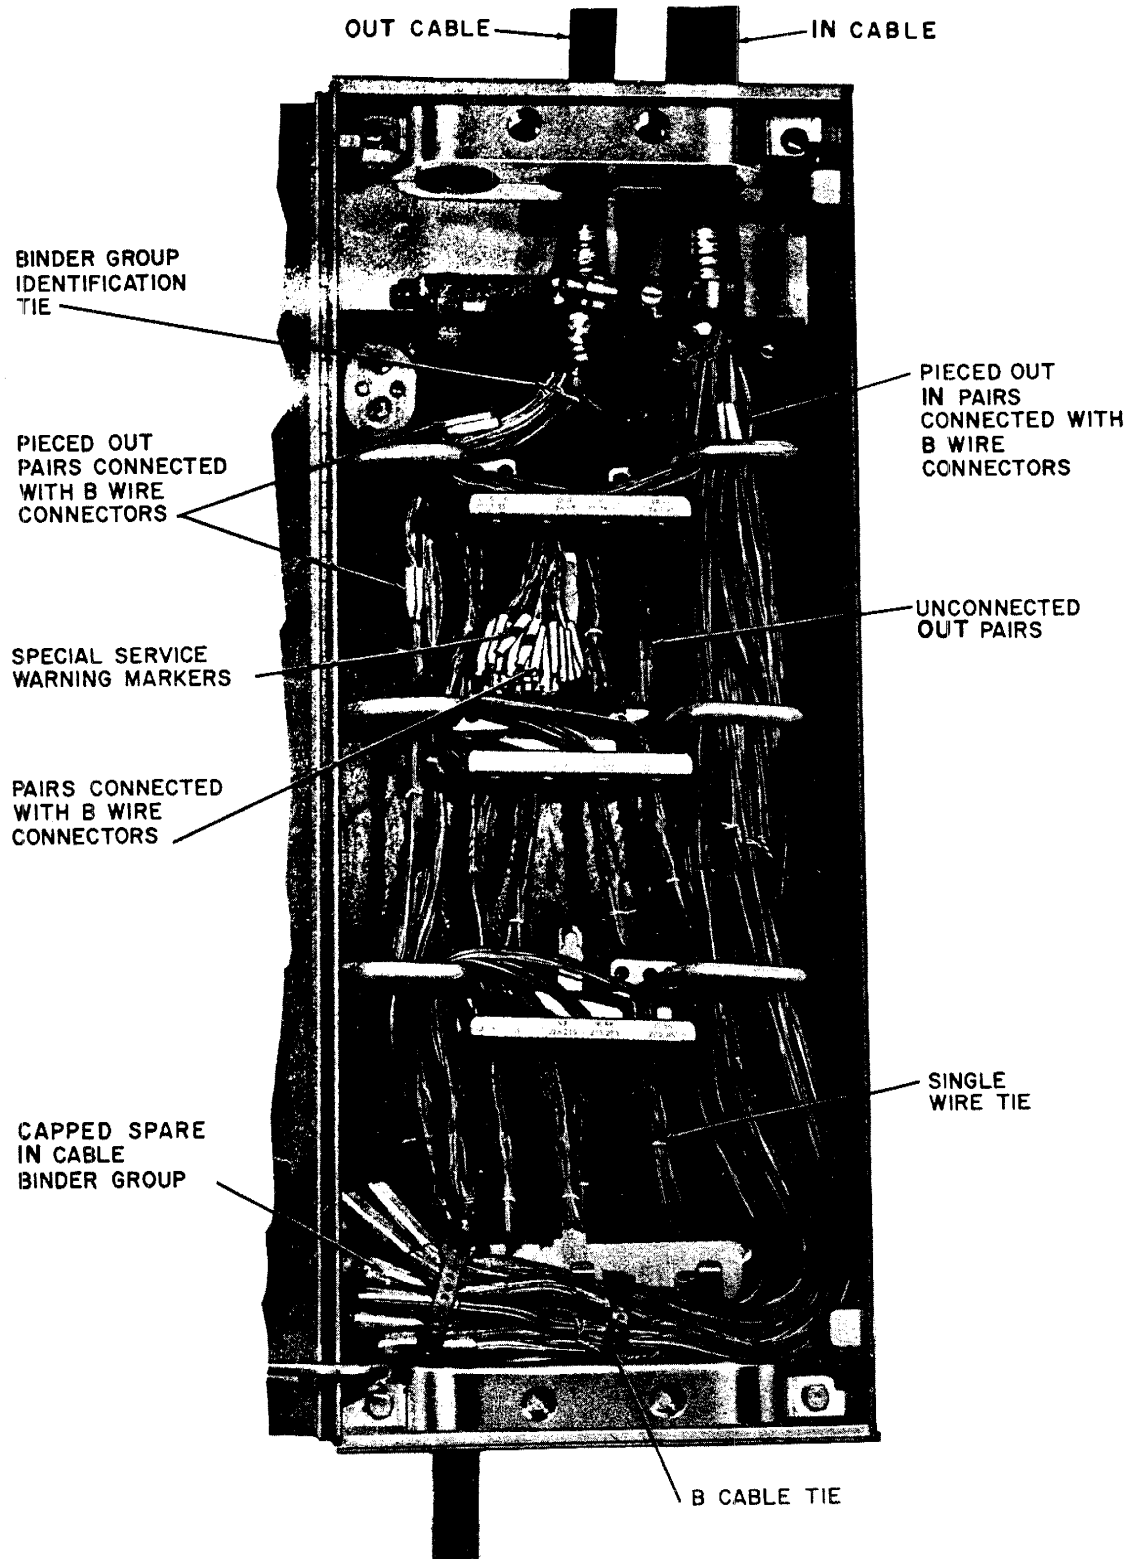
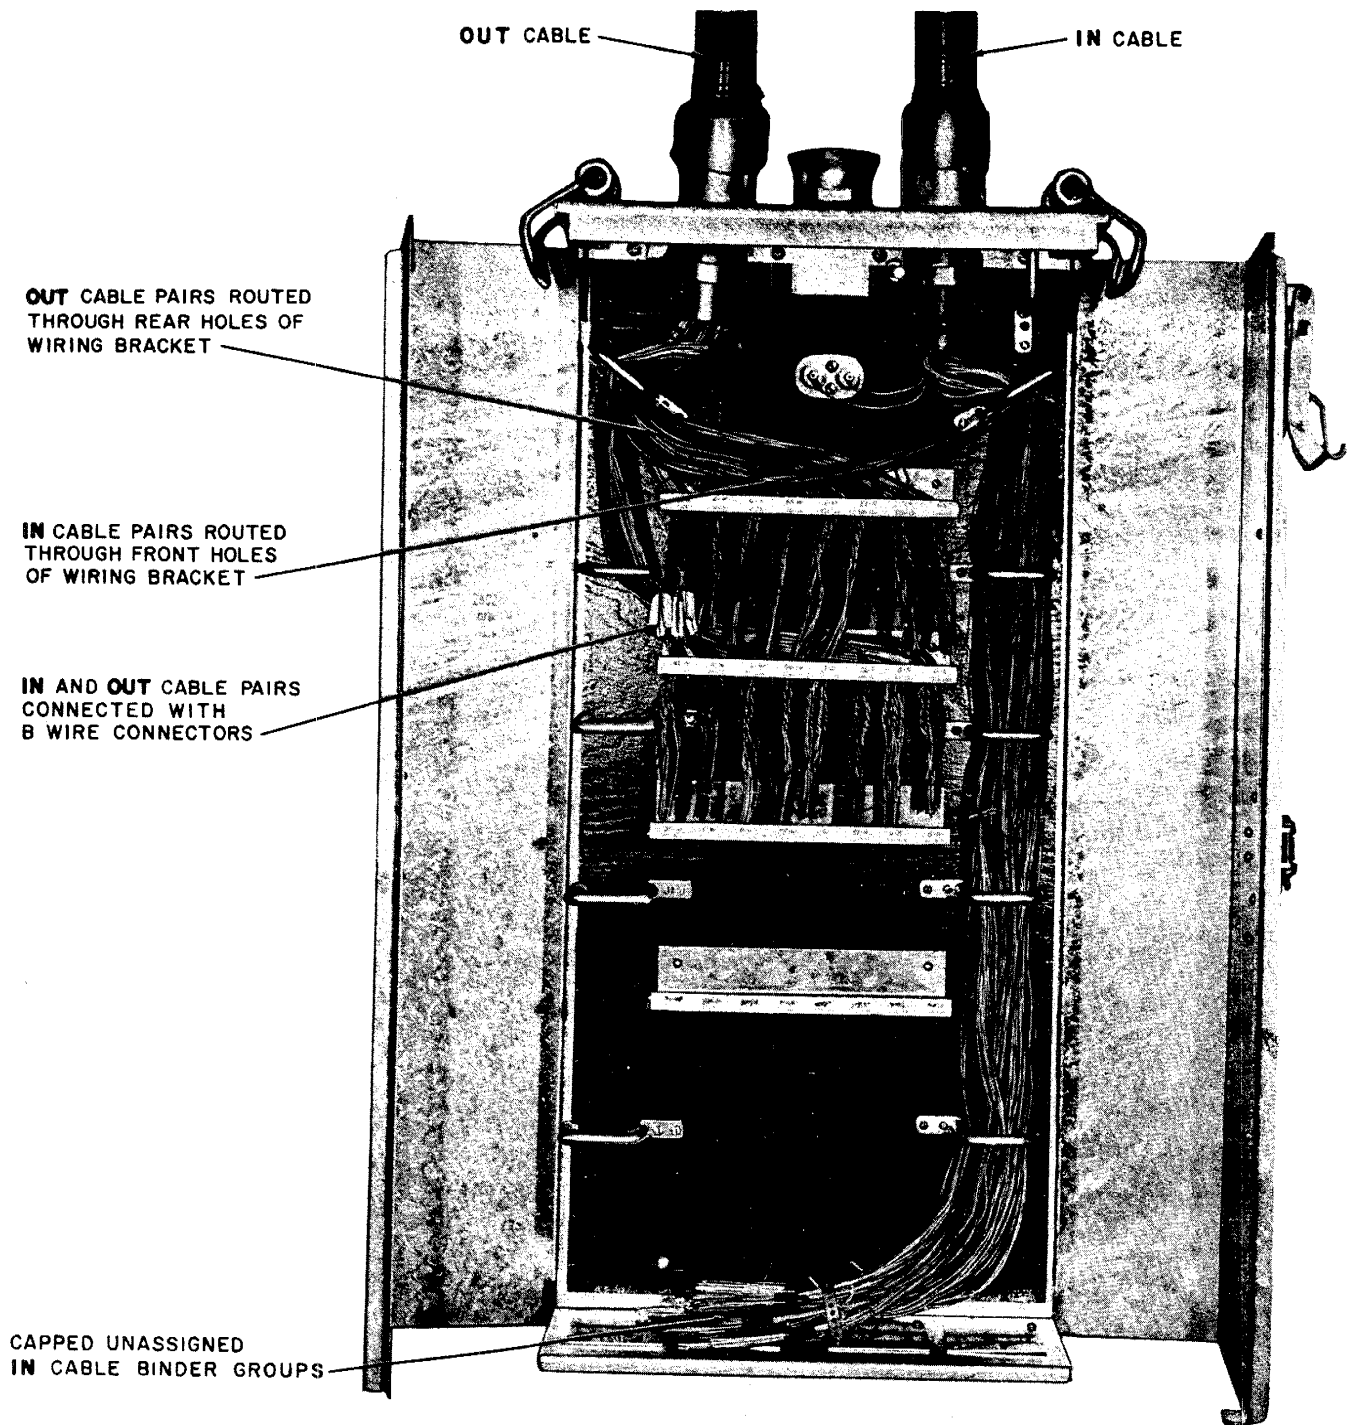

Fig. 3—5-Type Closure
Fig. 4—29-Type Cabinet
- Revise Fig. 3 to illustrate the new 5-type closure.
(b) **Pole- and Wall-Mounted Access Points**—The 5-type closures (Fig. 3) and the 29-type cabinets (Fig. 4) are used to enclose pole- and wall-mounted access points.
**4.01** When cable pairs are used for special services, it will be necessary to identify the circuits at the time the pairs are connected by wrapping a red warning marker tape around each B Wire Connector as shown in Fig. 3.